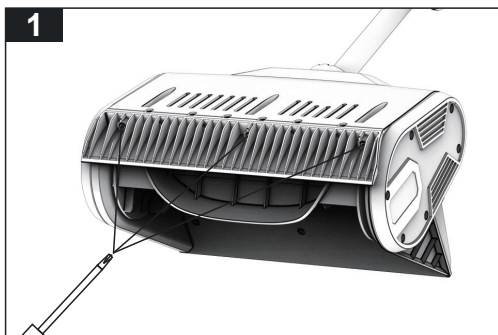

Fig. 13
- Place the snow shovel on the ground or on a work bench. Turn the snow shovel over. Use a suitable star key (not supplied) to remove the 3 screws that secure the scraper blade to the base of the unit. (Fig.13)